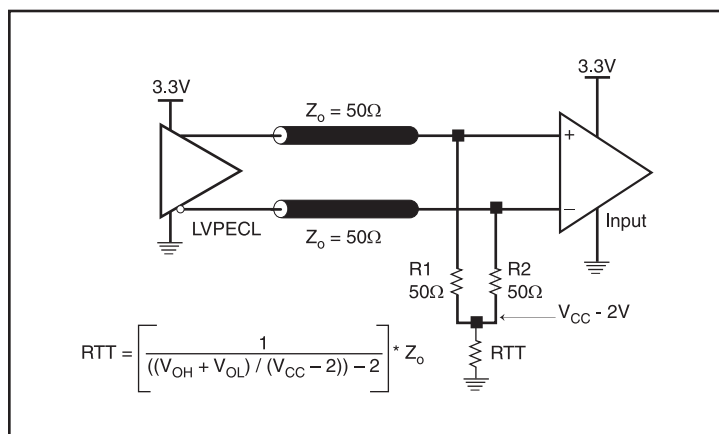

Figure 1A. 3.3V LVPECL Output Termination
*Figures 1A and 1B* show two different layouts which are recommended only as guidelines. Other suitable clock layouts may exist and it would be recommended that the board designers simulate to guarantee compatibility across all printed circuit and clock component process variations.